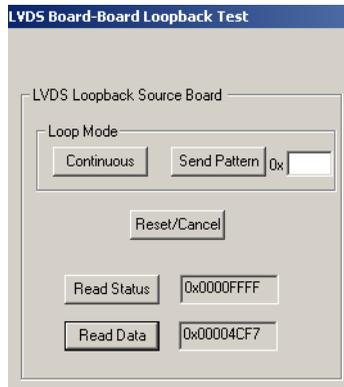

Figure 2-16. LVDS LoopBack Test Status
A passing status is indicated by a Read Status of 0x0000FFFF. See Figure 2-16. A non-zero result in the first four nibbles or a zero in the last four nibbles indicates failure (e.g., 0x1000EFFF indicates a failure in bit 12).
- 4. If you click the Continuous button in the LVDS Loopback Source Board portion of the LVDS Board-Board Loopback Test window, a Linear Feedback Shift Register (LFSR) continuously generates pseudo-random data and transmits it to the VHDM connector.** See Figure 2-16.
- 5. To terminate a continuous test, click the Reset/Cancel button.** See Figure 2-16.